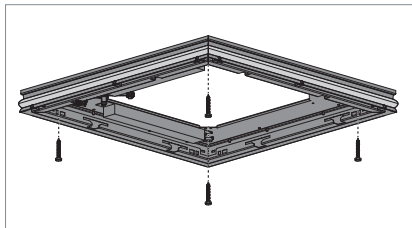

Fig. 4: Screwing the luminaire frame to the ceiling.
- Screw the luminaire frame to the ceiling using four suitable screws, see Fig. 4.